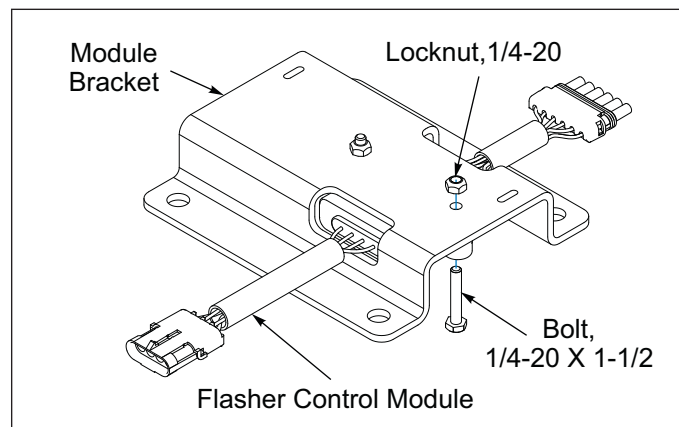

Figure 2-2: Flasher Control Module and Bracket
5. Attach the Flasher Control Module to the Module Bracket with 1/4-20 x 1-1/2 Bolts and Locknuts. **See Figure 2-2.**